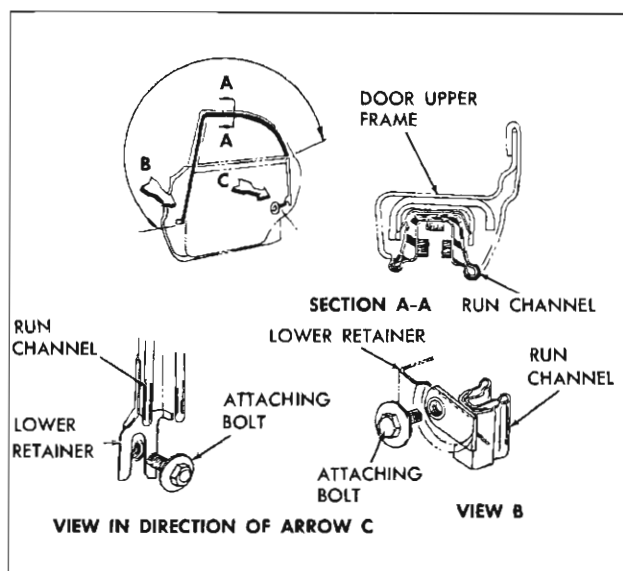

Fig. 53—Rear Door Window Glass Run Channel—69 Styles
3. Remove front and rear attaching screws from hinge and lock pillar facing of door inner panel (fig. 53).